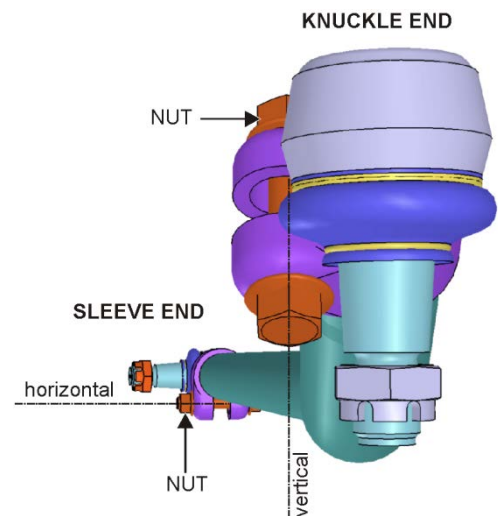

FIGURE 13: NOTE THE HORIZONTAL ORIENTATION OF THE CLAMP BOLT AT THE SLEEVE END AND ON WHICH SIDE THE NUT MUST BE POSITIONED
16. Once the proper length adjustment is done, tighten the adjustment sleeve clamp. To prevent interference between the ball joint clamp bolts with other components of the steering system, the clamp bolt must be positioned horizontally as shown on FIGURE 13. **Tighten the clamp nut to 118-133 lbf-ft.**